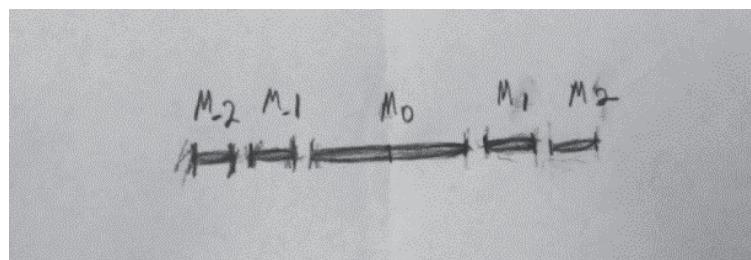

Figure 39 – Single Slit Set-up
4. Turn the laser diode module on. Direct the laser beam through the single slit such that a diffraction pattern is formed on the wall as shown in the Figure 39.